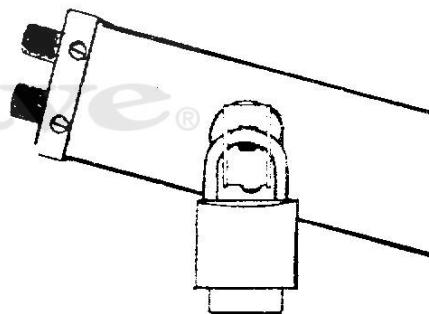

Figure 2-3. Lock Placement
4. Attach a padlock through holes in sides of mounting lock, as shown in Figure 2-3; then, latch padlock to prevent removal of unit from mounting bracket.